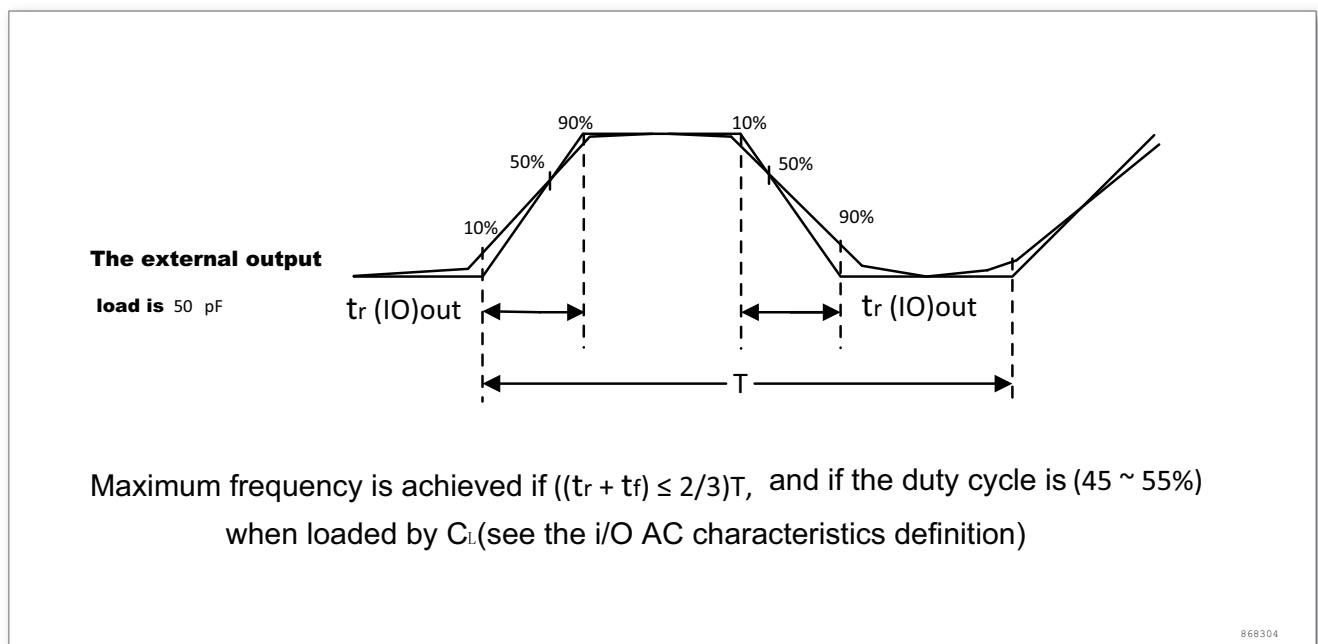

Figure 16. I/O AC characteristics
The definitions and values of the input and output AC characteristics are given in figure 16 and Table 30, respectively.
2. The maximum frequency is defined in figure 16.